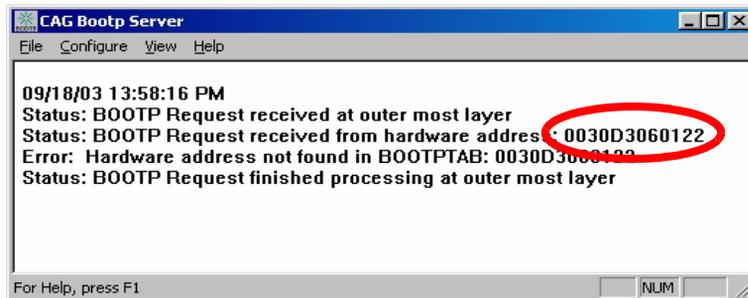

Figure 3 Bootp Server
- 3 Now turn on the module with the Firmware Updates and view the Bootp Server window. After some time the Bootp Server will display the request from the Firmware Updates with the hardware (MAC) address (this information is also stored in the file trace.txt in the Bootp server directory, if Log to Disk is enabled), see Figure 3 on page 25.
- 4 Identify your Firmware Updates by the MAC address, see Figure 3.
When using this **Bootp** mode, the parameters are not written into the non-volatile memory of the card. If you delete this Bootp Configuration, the LAN Interface will show up as shown in Figure 3 on page 25 (**Bootp** mode).